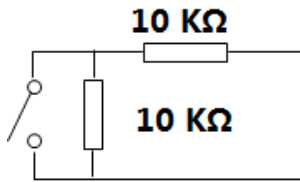

**Figure 20 Connect External Dry Contact or Switch**
3. Connect the external dry contact equipment or switch to the other end of the dry contact input cable, as shown in Figure 20.